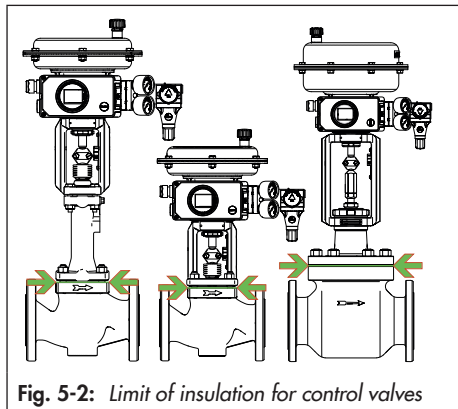

Fig. 5-2: Limit of insulation for control valves
- ➔ Only insulate control valves up to the bonnet flange of the valve body (see Fig. 5-2). This also applies to versions with bellows seal or insulating section at medium temperatures below 0 °C (32 °F)
When the actuator is mounted to the valve using a crossbeam (form B, Fig. 5-2), the actuator is fastened to the valve bonnet using a central nut.